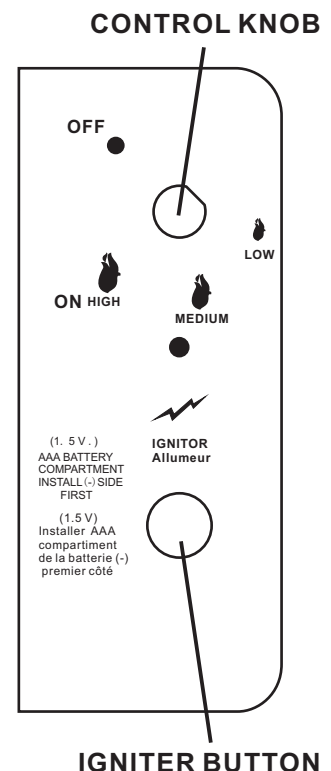

Figure 8
1. Locate the control and igniter panel. Make sure the control knob is in the "OFF" position. See Figure 8. Open the tank door and open the tank valve all the way.
2. Push in the igniter button. You will hear a slight clicking sound. With the igniter button pushed in, push and turn the control knob to the "ON" position. The fire should light within a few seconds. Once the flame is lit, release the igniter button and continue to hold the control knob in for 10 to 15 seconds. Release the control knob. The control knob should pop back out and the fire should remain lit. Note: If the fire does not light, turn the knob to the "OFF" position and wait five (5) minutes before trying again.